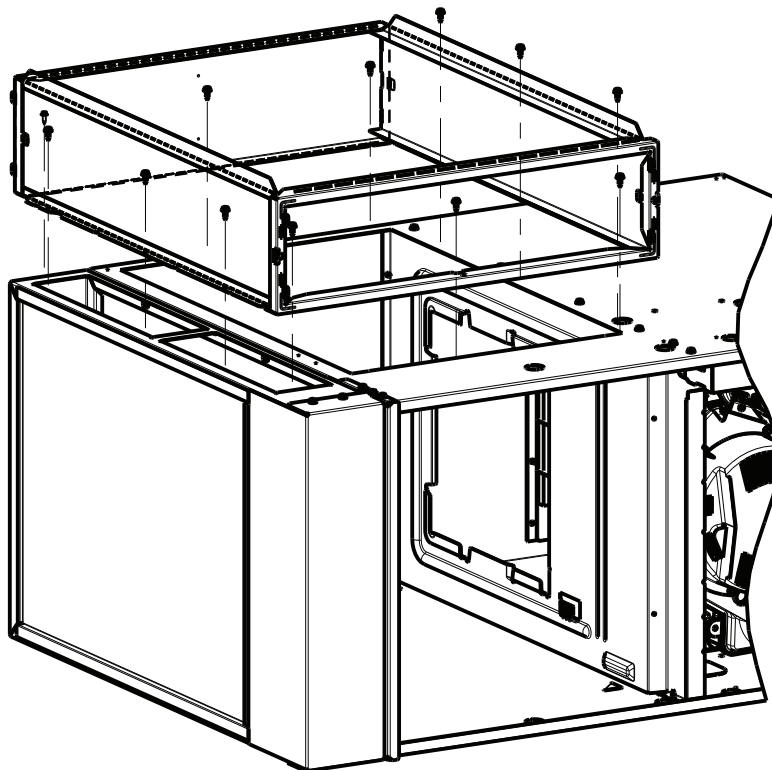

Fig. 2 - Attach Media Cabinet
7. Attach the Media Cabinet or other air filtration device to the return air opening and base per the instructions included with Media Cabinet or other air filtration device. See Fig 2.